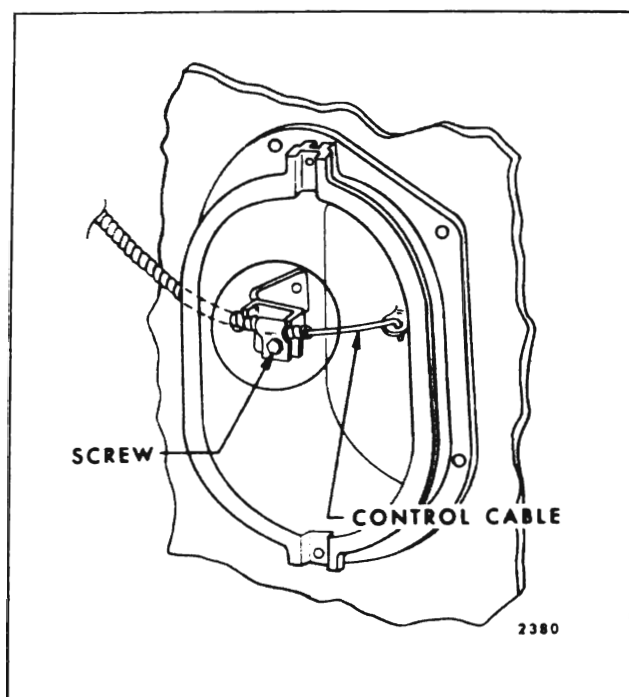

Fig. 5-2—Air Outlet Control Cable
2. Disengage control cable from outlet assembly and loosen cable attaching screw (Fig. 5-2).
3. Loosen attaching screw securing cable to shroud side air outlet duct assembly (Fig. 5-2).